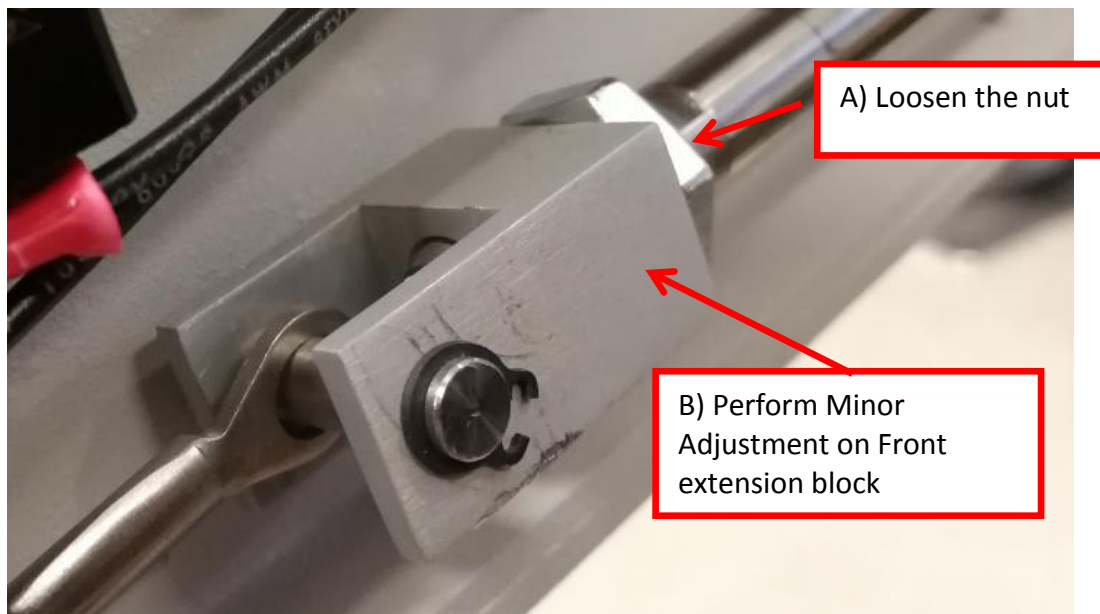

Figure 25
- i. If gap persist, may perform minor adjustment on the Front Extension Block & Nut. May refer to below Figure 25